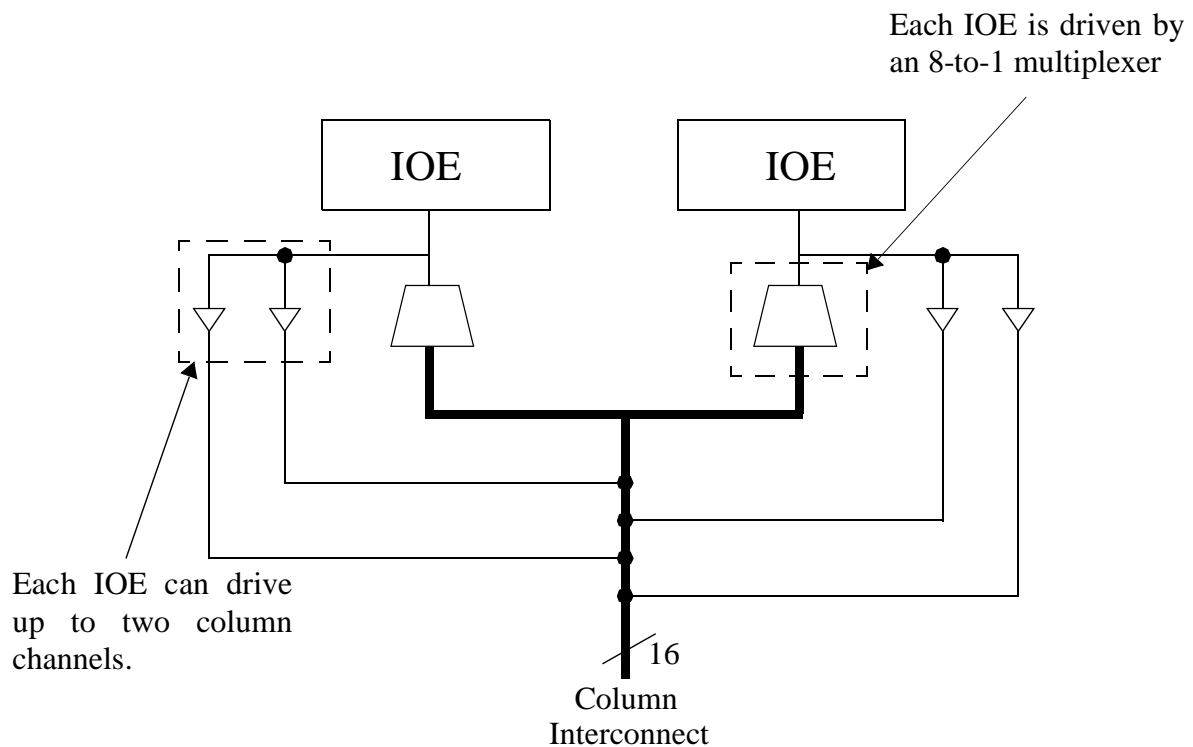

Figure 17 : Flex 8000 column to IOE connection
- The output of an 8-to-1 multiplexer is connected to each of the IOEs. See Figure 17.